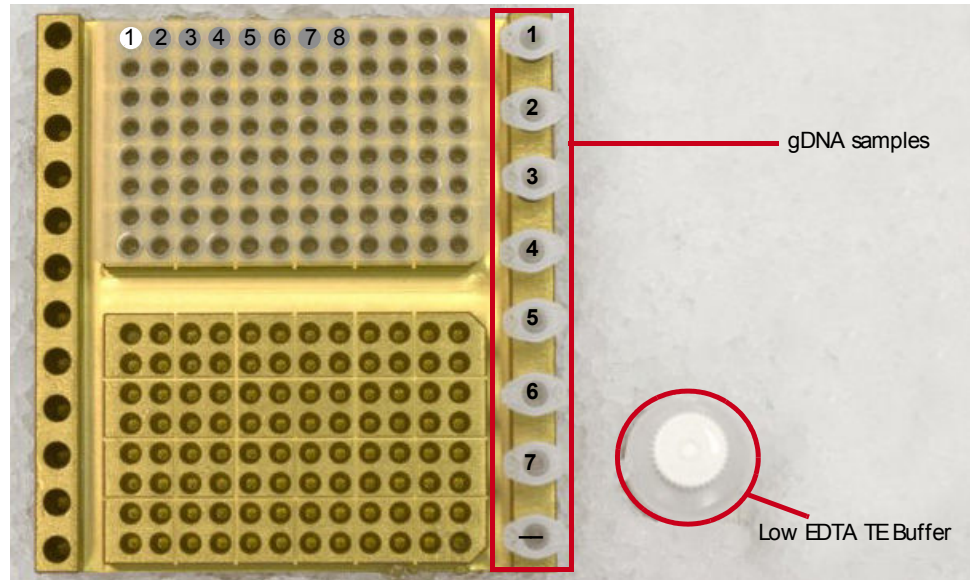

Figure 1 96-well plate in cooling block, on ice.
1. Place a 96-well plate in the upper half of the cooling block on ice (Figure 1).